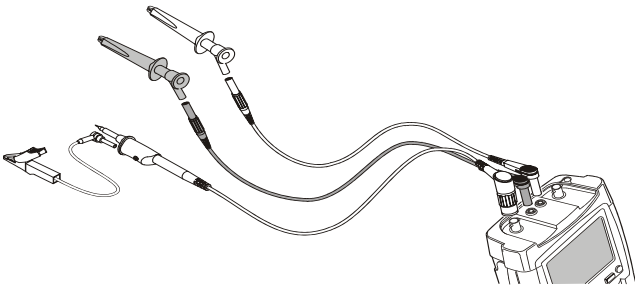

Figure 31. External Triggering
- 1 Supply a signal to the red and black 4-mm banana jack inputs. See Figure 31.